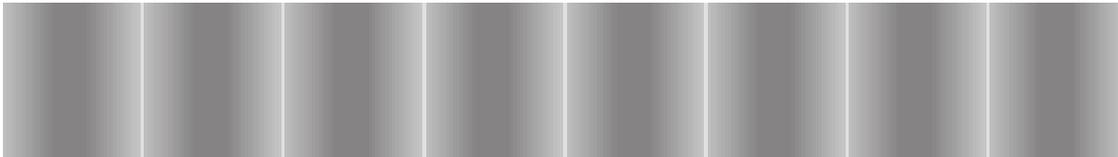

Fig. 39: Test Image One
- If the camera is set for an exposure mode that uses an ExSync signal, the ExSync signal must be present and must toggle in order to output a line on the test image. Multiple transitions of the ExSync signal will produce a two dimensional image as shown in Figure 39 on page 112 or Figure 41 on page 113.